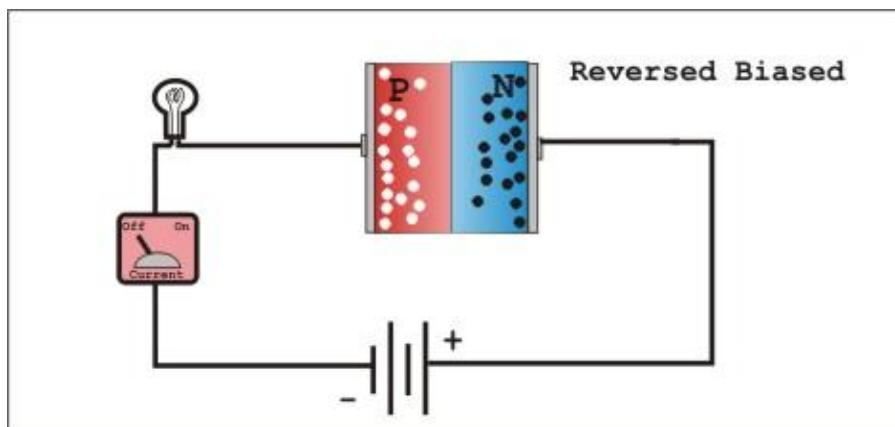

Figure. 1.1.5. Reverse biasing of P-N junction diode.
- c) **Reverse Bias:** When a positive voltage is applied to the N-type material and a negative voltage is applied to the P-type material , the diode is said to be in a reverse biased condition, as shown in Figure. 1.1.5. The positive voltage applied to the N-type semiconductor attracts electrons towards the positive electrode and hence away from the junction. At the same time, the holes in the P-type semiconductor are attracted towards the negative electrode. This results in widening of depletion layer due to a lack of electrons and holes near the junction and presents a high impedance path for the majority carriers. The height of potential barrier is increased, which prevents the flow of forward current through the diode. However, the applied potential favors the movement of minority carriers across the junction causing flow of current in the reverse direction. This current is called reverse saturation current and is represented by  $I_0$  or  $I_S$ .